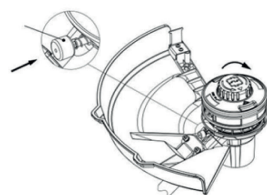

Fig. 14C
2. Press the locking pin and at the same time turn the trimmer head clockwise to assemble it. (Fig.14C)